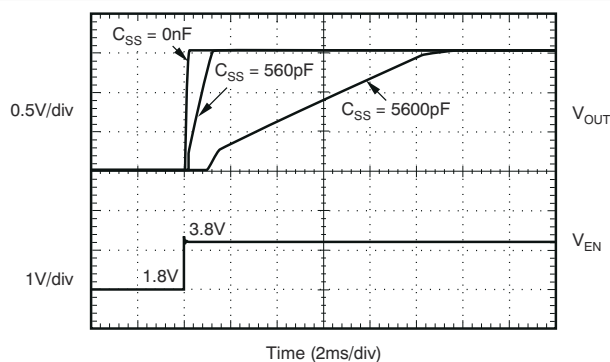

Figure 8-6. Turn-On Response
3. Select a minimum of a 2.2- μ F ceramic output capacitor. Increased output capacitance helps the output load transient response. Figure 8-6 gives examples of the load transient response with different output capacitor values and types.